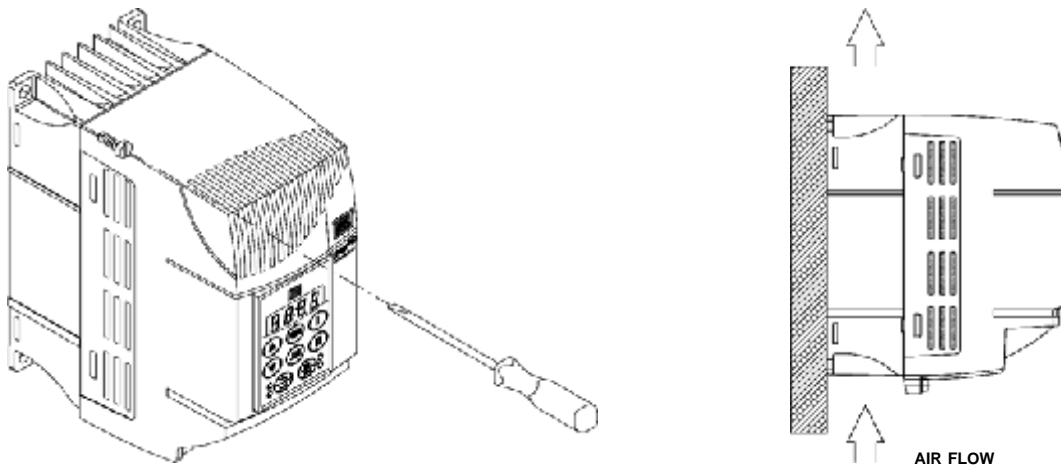

Figure 3.3 - Mounting procedures for CFW-08
- For CFW-08 installation procedures, see Fig. 3.3.